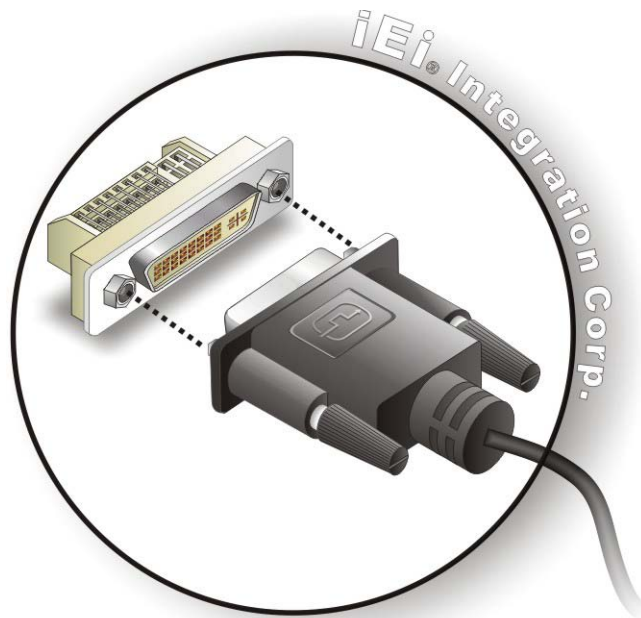

Figure 3-15: DVI Connector
- Step 3: Insert the DVI connector.** Once the connectors are properly aligned with the male connector, insert the male connector from the digital display device into the female connector on the TANK-820-H61. See **Figure 3-15**.